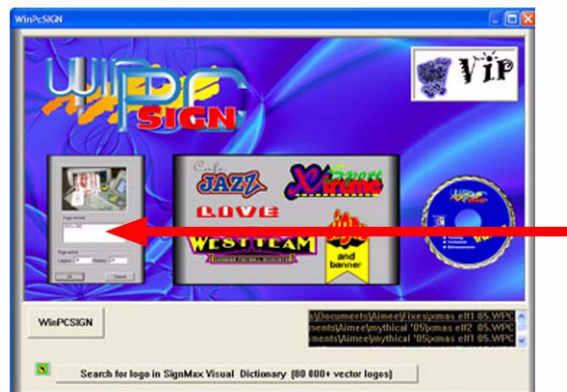

Figure 103
- 3 In the next window, click the **Create New Document** image at the left of the screen. See figure 103.